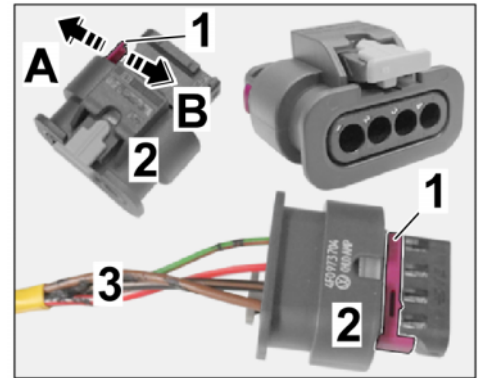

Figure 37
3.4.1 Release the socket housing (4-pin, see parts list). ⇒ *Figure 37-A-*
3.4.3 Lock the socket housing (4-pin, see parts list). ⇒ *Figure 37-B-*